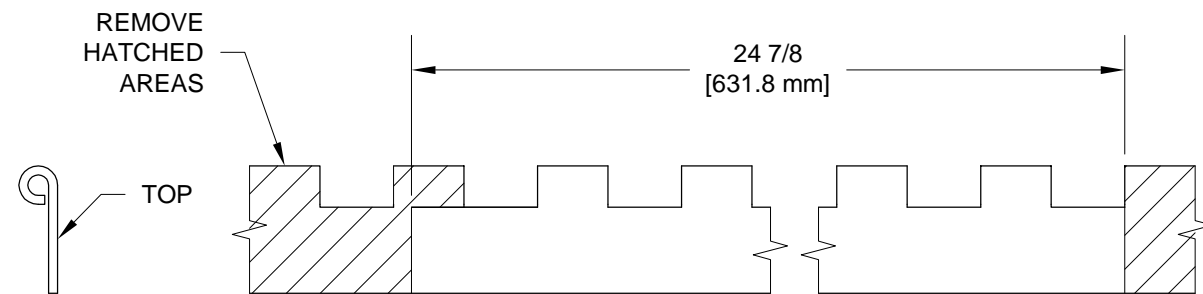
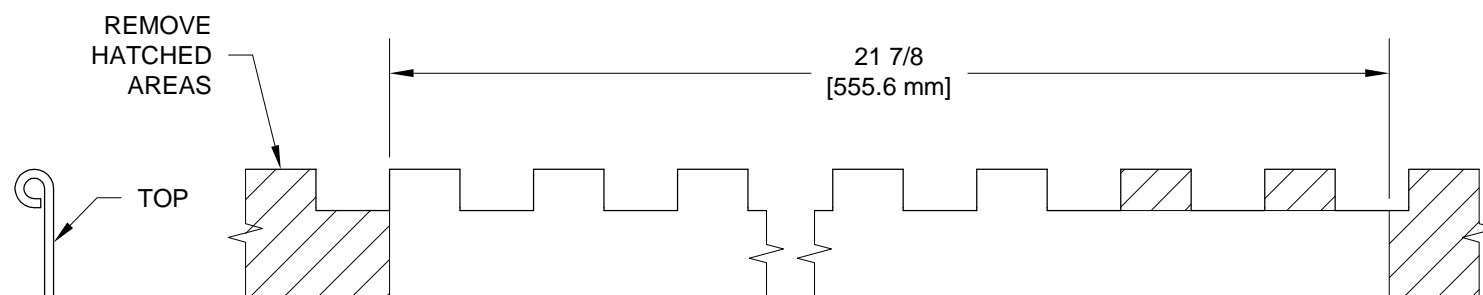

FIGURE 1: FF-01408A
FIGURE 2: FF-01408C
Step 2: Fabricate the FF-01408A & C Cowl Attach Piano Hinges from the HINGE PIANO 1/8 halves using the dimensions shown in Figure 1 and Figure 2. Note the orientation of the eyelets when trimming.